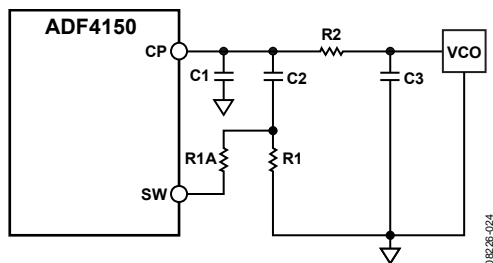

Figure 25. Fast Lock Loop Filter Topology—Topology 2
- An extra resistor (R1A) is connected directly from SW, as shown in Figure 25. The extra resistor is calculated such that the parallel combination of an extra resistor and the damping resistor (R1) is reduced to 1/4 of the original value of R1 (see Figure 25).